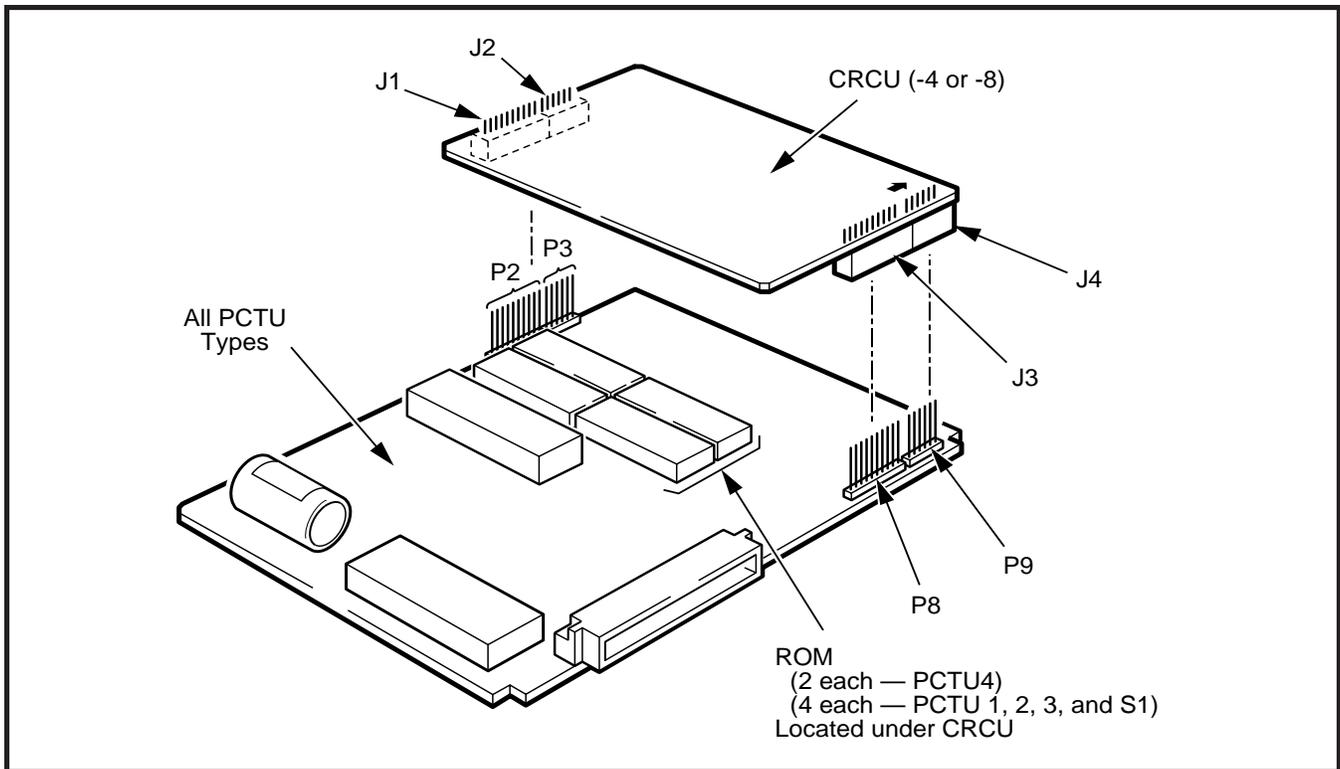

FIGURE 6-3
- 2) Mate CRCU connectors **J1, J2, J3, and J4** with PCTU connectors **P2, P3, P8, and P9** (Figure 6-3).